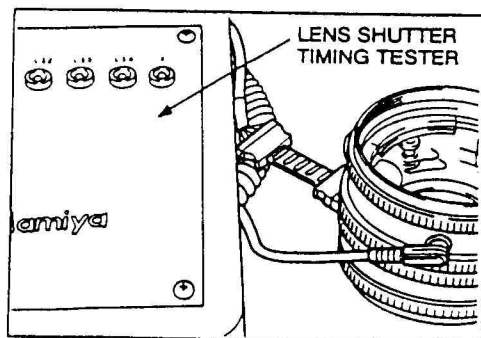

Fig. 21
2) Check electro-motive set with the lens shutter timing tester. (See Fig. 21.)